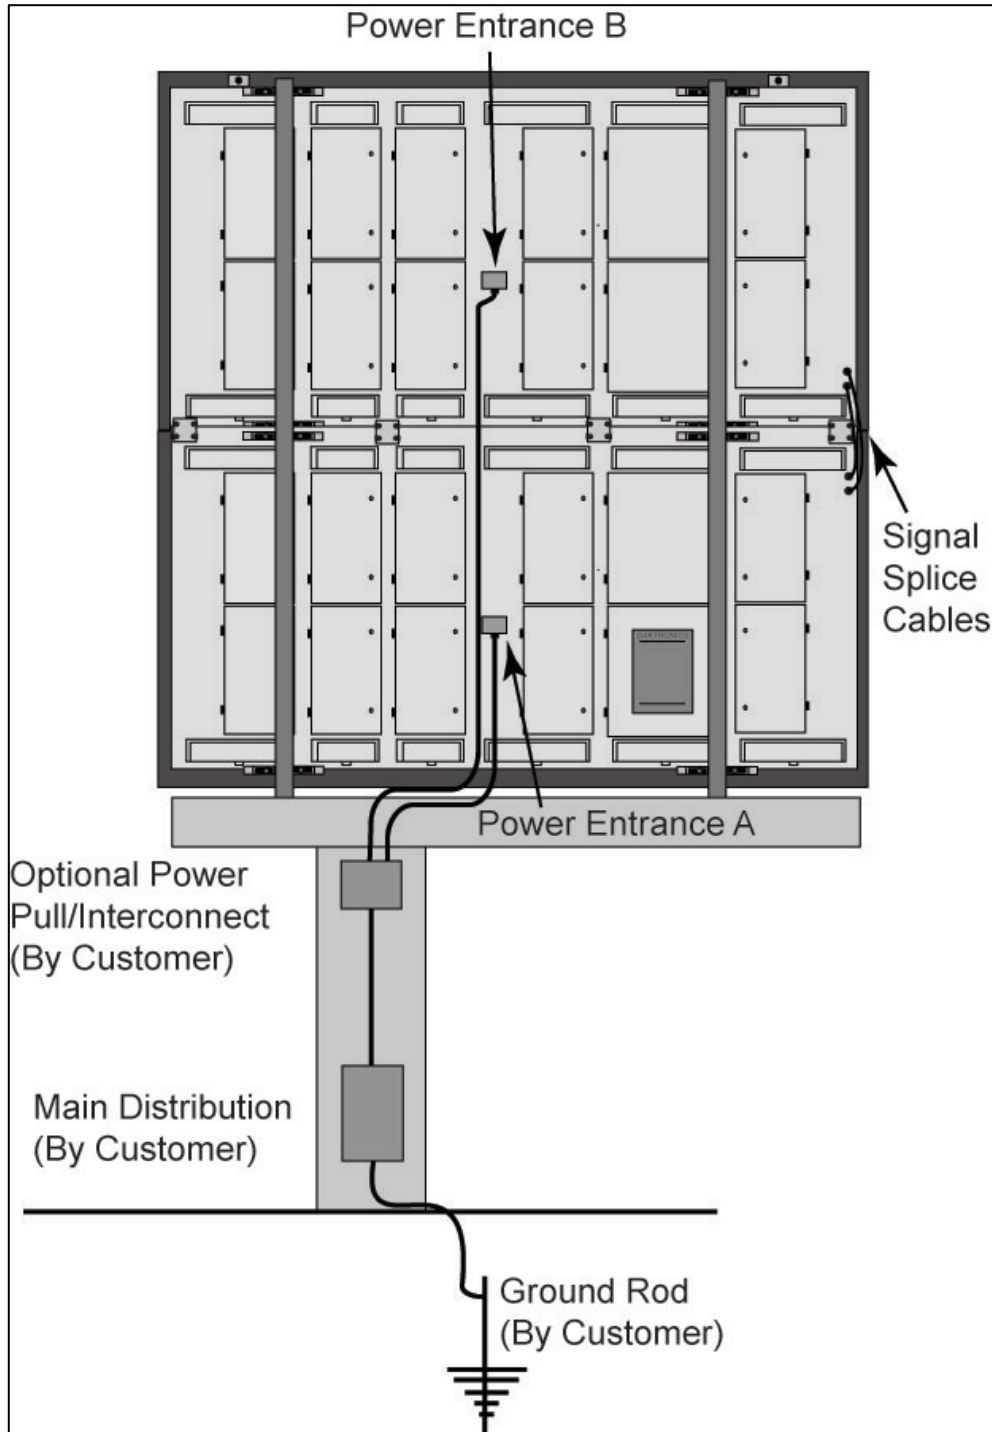

Figure 32: Billboard Electrical Installation Overview
2. Run conduit from the main distribution (provided by customer) to each display power entrance. On a single section display there is only one power entrance. On multiple section displays there is a power entrance for each level. Refer to **Figure 32**.